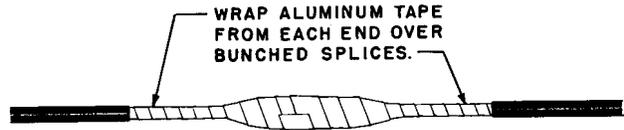

Fig. 11 – Aluminum Tape Wrapped and Overlapped
4.06 Rewind the aluminum tape from each end of the splice back over the wires and insulated sleeves. Make certain that the tapes from each end overlap at the center of the splice for a full turn, as shown in Fig. 11.